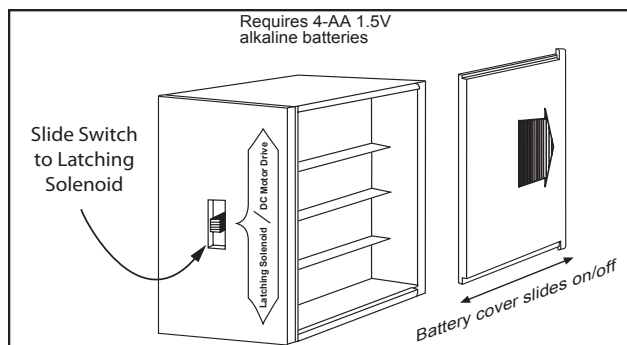
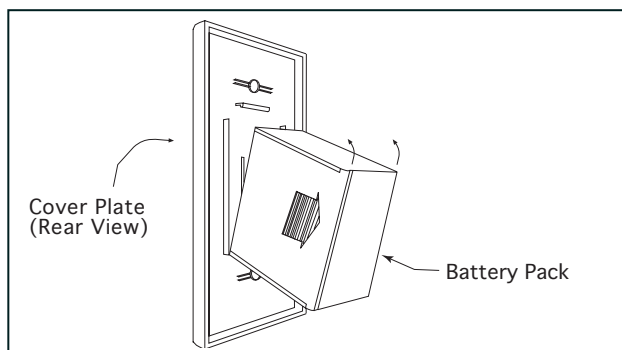

Fig. 21. Slide switch on latching solenoid
Fig. 22 Cover plate installation
4. Install the (4) AA batteries in to the battery compartment shown in figure 21. Double check to ensure the slide switch is in the latching solenoid position on the battery pack. Then snap cover plate in place as shown in fig.22.